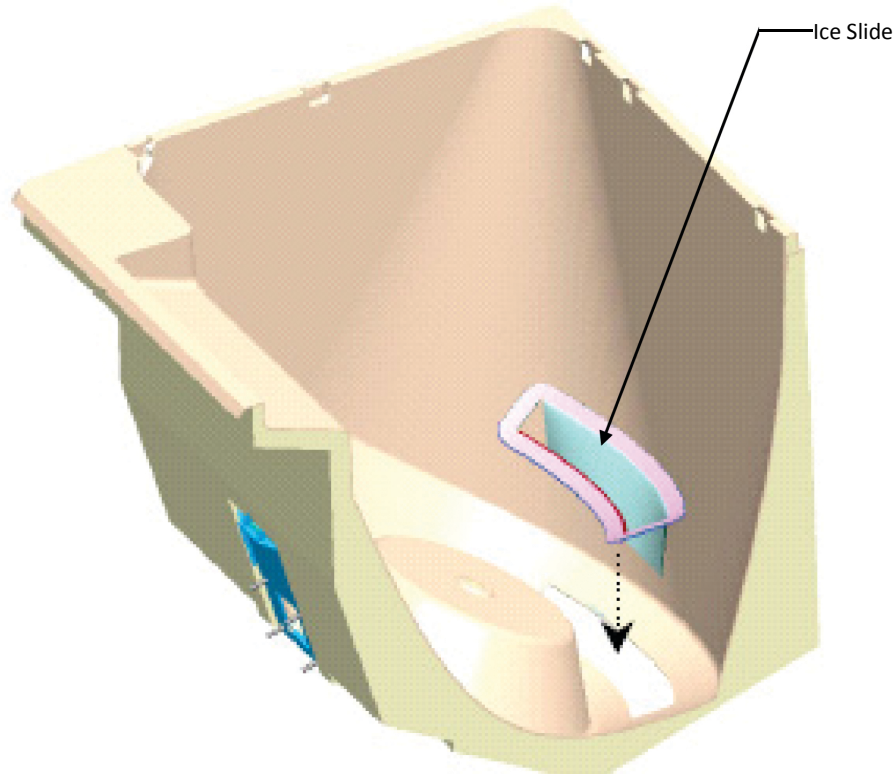

Figure 3.
3. Place ice slide into ice drop opening in bin, See Figure 3.